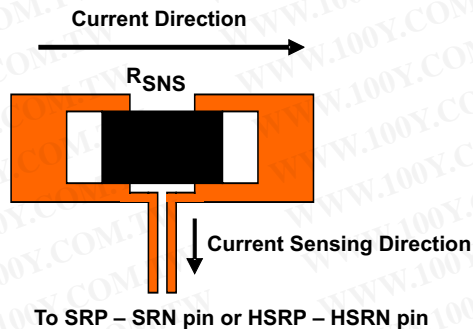

Figure 14. Sensing Resistor PCB Layout
4. The charging-current sensing resistor should be placed right next to the inductor output. Route the sense leads connected across the sensing resistor back to the IC in same layer, close to each other (minimize loop area) and do not route the sense leads through a high-current path (see Figure 14 for Kelvin connection for best current accuracy). Place the decoupling capacitor on these traces next to the IC.